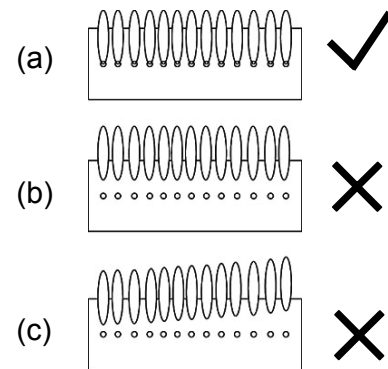

Fig. 52 Acceptable Flame (only a)
- d. With a protected gloved hand, fine tune the air shutter until a stable, mostly blue flame is observed through the flame observation hole and slots on each side of the burner box. Acceptable flames are shown in Fig. 52